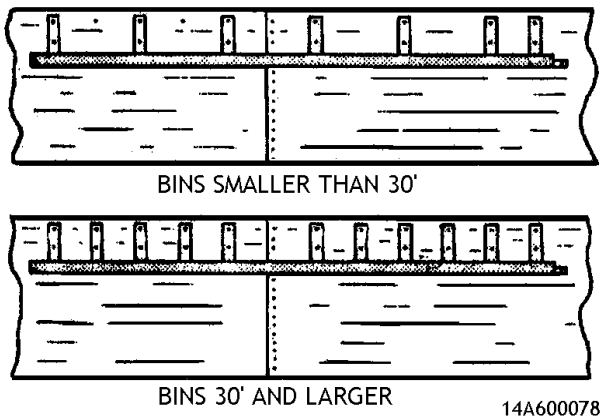
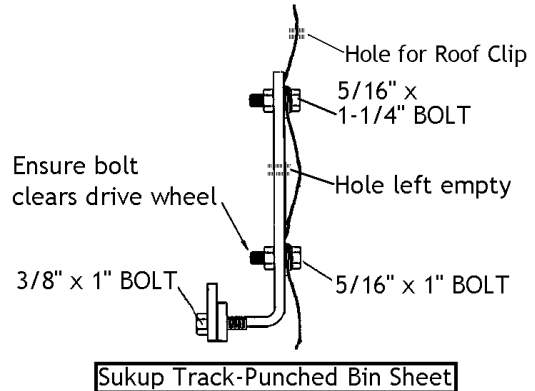
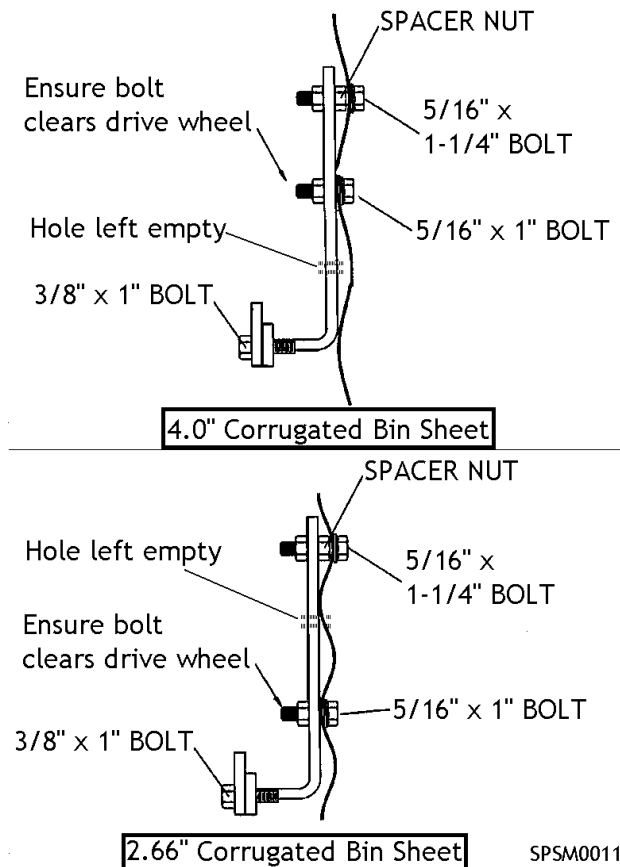

Figure 3 - Head-On View of Track Bracket Placement
Figure 4 - Side View of Track Mounted on Sukup Bin Sheet Punched for Track
Figure 6 - Side View of Track Mounted on Sukup Bin Sheets Not Punched for Track and Sheets from Other Companies
- A1 For Sukup bins smaller than 30', insert 5/16" x 1-1/4" bolts in top hole of every other pair of bolt holes for track around top of bin (approximately 18" spacing). For Sukup bins 30' and larger, place bolts in top hole of every pair of bolt holes (approximately 9" spacing) except those at bin wall seam. **Figure 3, Figure 4.**
- A2 Mount 1 length of track with bolts through top holes on track brackets. **Figure 3, Figure 4.**
- A2.1 *Note:* On bins 30' and larger with a double-bracketed track, a gap has been left to prevent interference between seam bolts and track brackets. Install first section of track with seam in place of missing bracket. **Figure 3.**
- A4 Place 5/16" nuts onto bolts through track bracket. Do **not** tighten at this time. **Figure 4.**
- B1 For bins smaller than 30', insert 5/16" x 1-1/4" bolts in single ring of bolt holes around top of bin (approximately 18" spacing). For bins 30' and larger, place bolts in every bolt hole (approximately 9" spacing) except those at bin wall seam. **Figure 3.**
- B2 Tighten 5/16" spacer nuts onto these bolts. **Figure 6.**
- B3 Mount first segment of track over bolts and screw on a second 5/16" nut. **Figure 3, Figure 6.**
- B3.1 *Note:* On bins 30' and larger with a double-bracketed track, a gap has been left to prevent interference between vertical seam on sidewall sheets and track brackets. Install first section of track with bin wall seam in place of missing bracket. **Figure 3.**
- B5 After all track sections are in place, drill second, lower bolt holes through bin sheets using track brackets as pattern. **Figure 6.**
- B6.1 *Note:* Leave unused track bracket holes empty. **Figure 6.**
- C2.1 When drilling 4.0" Cor. sidewall sheets, use top and bottom track bracket holes as guide as shown in **Figure 4.**
- C3 Insert 5/16" x 1-1/4" bolt through top bolt holes. **Figure 6.**
- C4 Mount first segment of track over bolts and screw on 5/16" nuts. **Figure 6.**
- C5 Insert 5/16" x 1" bolts in lower holes of track bracket and add 5/16" nuts. Tighten using 1/2" wrench. **Figure 6.**
- C5.1 *Note:* Leave unused track bracket holes empty. **Figure 6.**